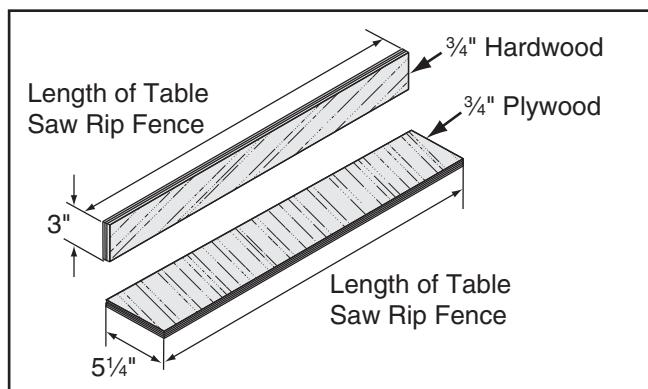

Figure 89. Auxiliary fence dimensions.
1. Cut a piece of $\frac{3}{4}$ " thick plywood $5\frac{1}{4}$ " wide and as long as your table saw fence; cut a piece of $\frac{3}{4}$ " thick hardwood 3" wide and as long as your table saw fence, as shown in **Figure 89**.